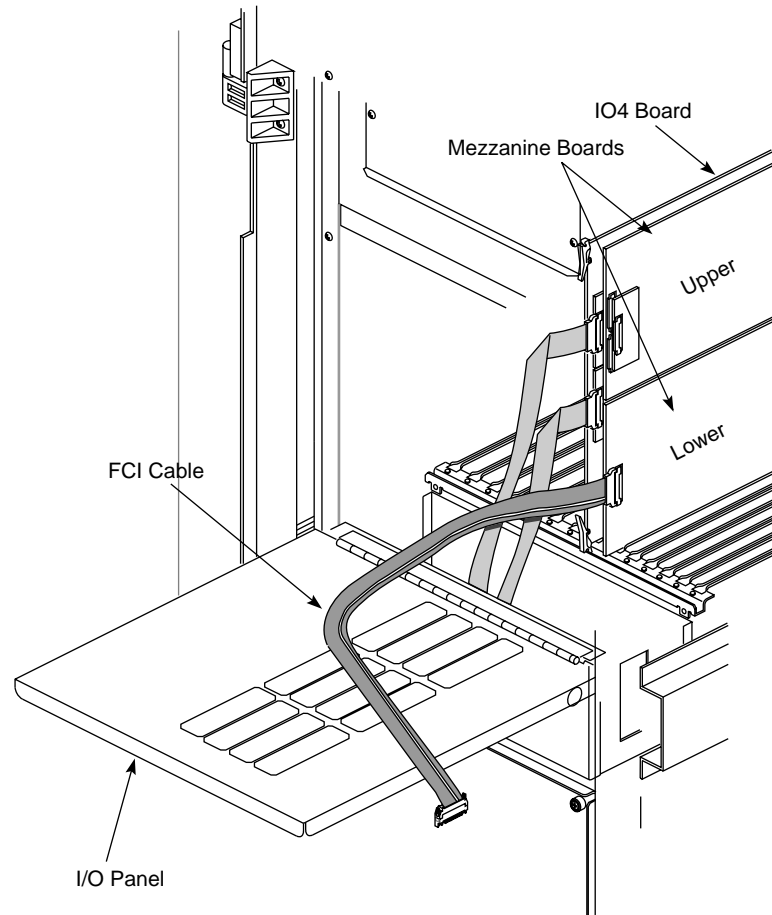

Figure 2-19 Installed IO4 Board
5. Position the mezzanine board onto the selected slot so that the connector on the bottom of the mezzanine board matches the mezzanine board receptacle on the IO4 board and the standoffs match the board's holes. Figure 2-19 illustrates the correct positioning for the upper and lower slots.
9. Reinstall the IO4 board into the chassis, as illustrated in Figure 2-19. Push the board firmly into the backplane. If the board has a VCAM board, the VCAM board must also connect to the backplane.